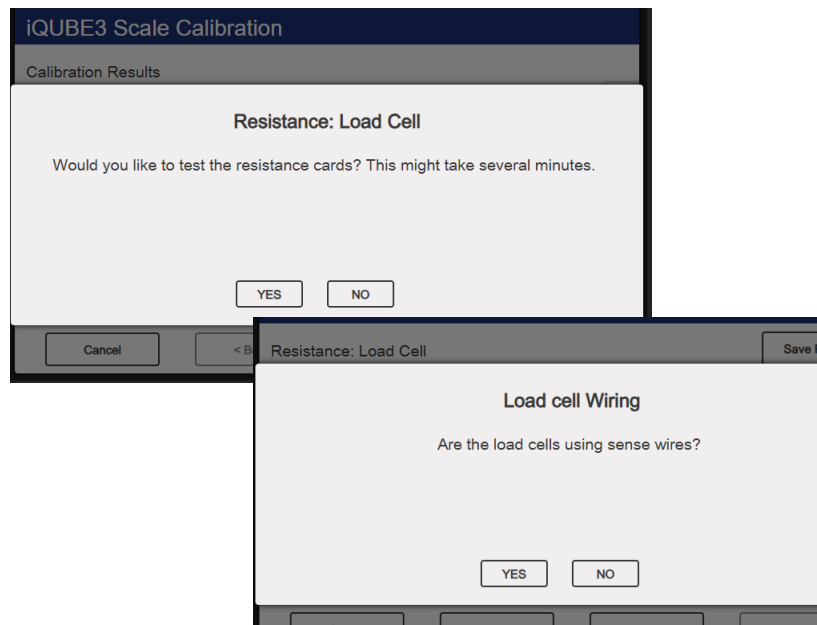

Figure 4-17. iQUBE³ Resistance Test Prompts
- If resistance boards are installed, **Resistance: Load Cell** prompt displays. (Figure 4-17 on page 58)